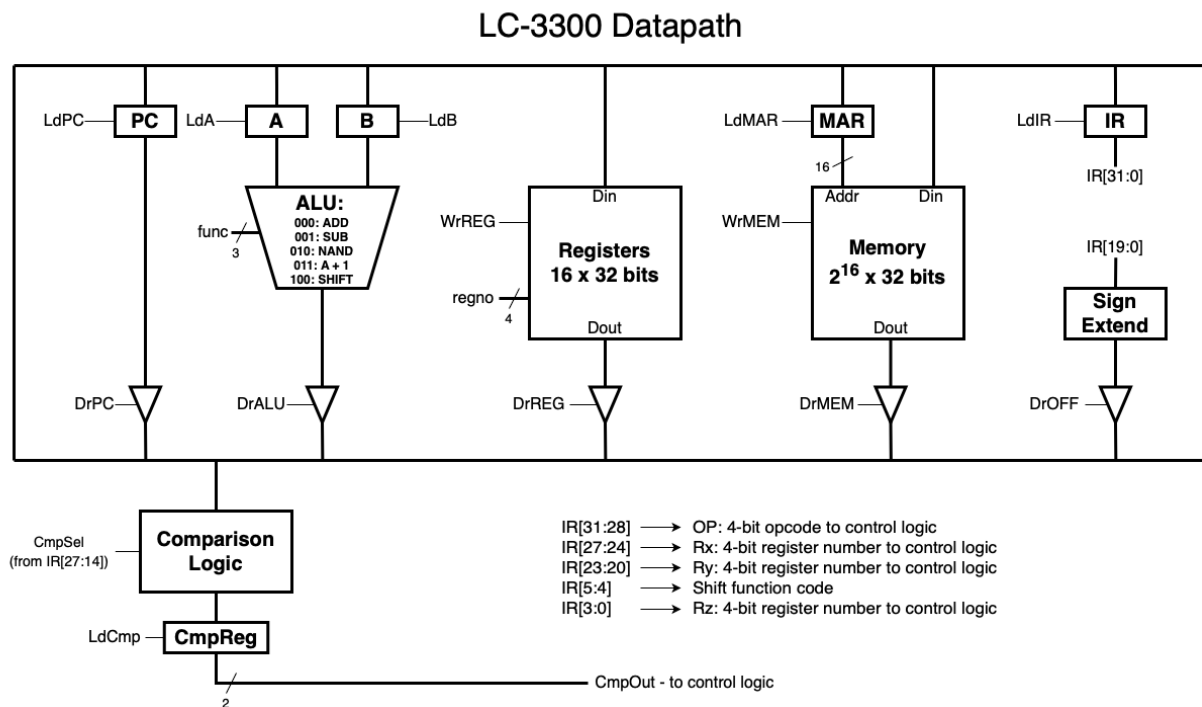

Figure 1: Datapath for the LC-3300 Processor
2. Using CircuitSim, implement the LC-3300 datapath. To do this, you will need to use the details of the LC-3300 datapath defined in Appendix A: LC-3300 Instruction Set Architecture. You should model your datapath on Figure 1.
The “comparison logic” box in Figure 1 is responsible for performing the comparison logic associated with the BEQ instructions. The comparison logic should read the current value on the bus. When executing BEQ, you should compute  $A - B$  using the ALU. While this result of the ALU is being driven on the bus, the comparison logic should read the result  $A - B$  and output a single “true” or “false” bit for the condition  $A == B$ .
2. Implement the Microcontrol Unit using CircuitSim. The appendix contains all of the necessary information. Take note that the input and output signals on the schematics directly match the signals marked in the LC-3300 datapath schematic (see Figure 1).
3. Connect the completed control unit to the datapath you implemented in Phase 1. Using Figures 1 and 2, connect the control signals to their appropriate spots.